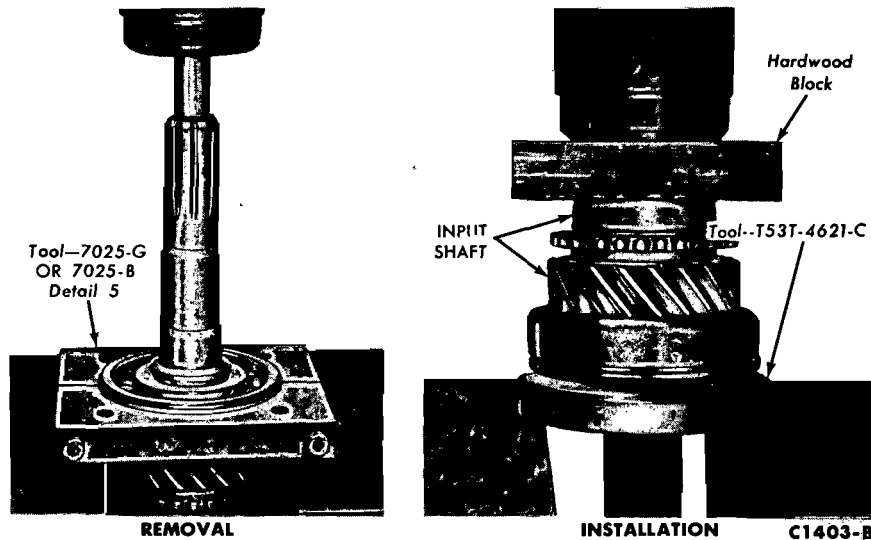

FIG. 15—Replacing Input Shaft Bearing
2. Press the input shaft gear out of the bearing as shown in Fig. 15.
3. Press a new bearing onto the input shaft with the tool shown in Fig. 15.